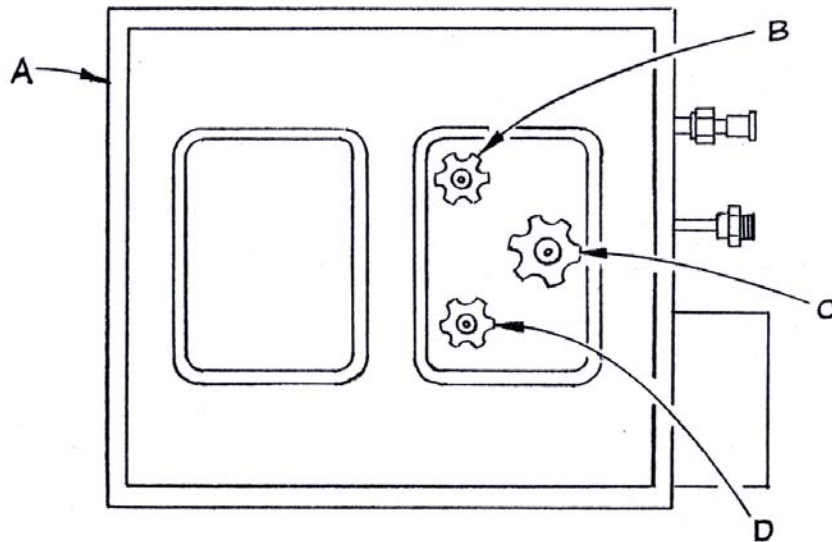

Figure 4-12: Location of Isolation Valves
1. Locate the red hand valves underneath the top panel of the unit. They are labeled COLD GAS FEED, COMMON RETURN, and HOT GAS FEED. (See Figure 4-12.)